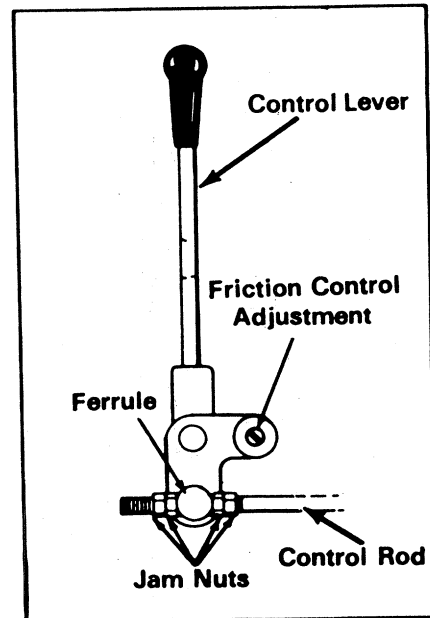

FIGURE 28.
2. Loosen the four jam nuts so the lever can be moved without moving the control rod. (See figure 28.)
Adjustment can be made for the different attachments by loosening the locknut and adjusting the screw as shown in figure 28. Turn the screw in (clockwise) to increase friction. The friction control must be free of grease and oil.